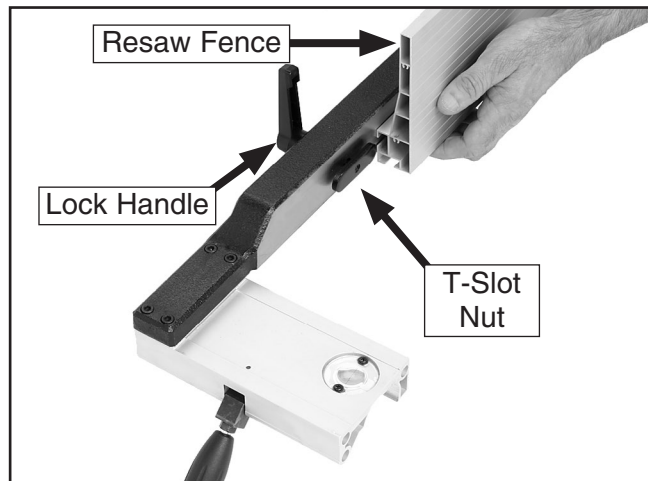

Figure 15. Attaching resaw fence to standard fence.
- Slide the resaw fence over the T-slot nut, as shown in **Figure 15**, so the T-slot nut fits inside the channel of the resaw fence, then tighten the lock handle.